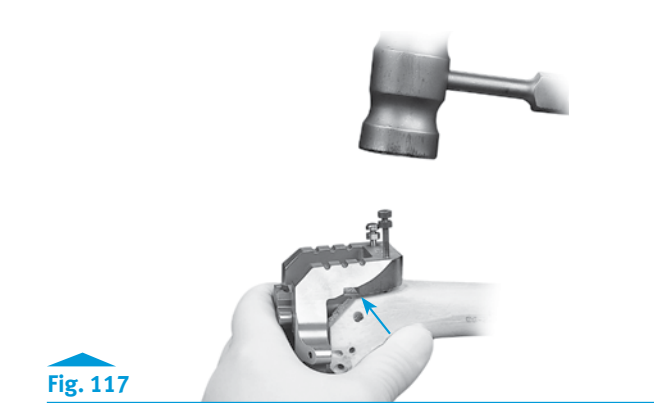

Fig. 117
- This Notch/Chamfer Guide is designed to key from the medullary canal. There is typically a space between the anterior bone and the bottom of the guide (see Fig. 117).